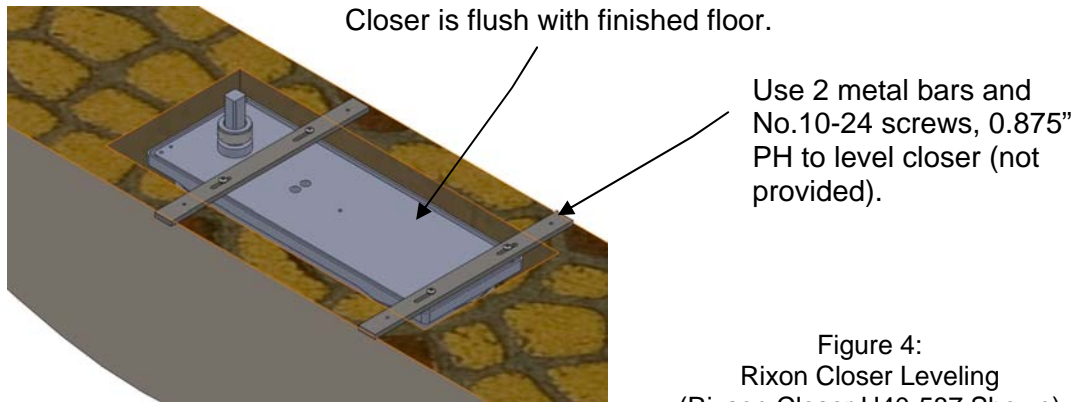

Figure 4:
6. Set the closer into the floor and level it. Closer is to be installed parallel with center line of door and flush to the floor (Figure 4).
13. To complete the installation, apply backer rod and a complete bed of sealant to the entire exterior and interior joint between the frame and the building structure. Tool the sealant to eliminate bubbles, voids and / or breaks and ensure a completely watertight seal (Figure 4).